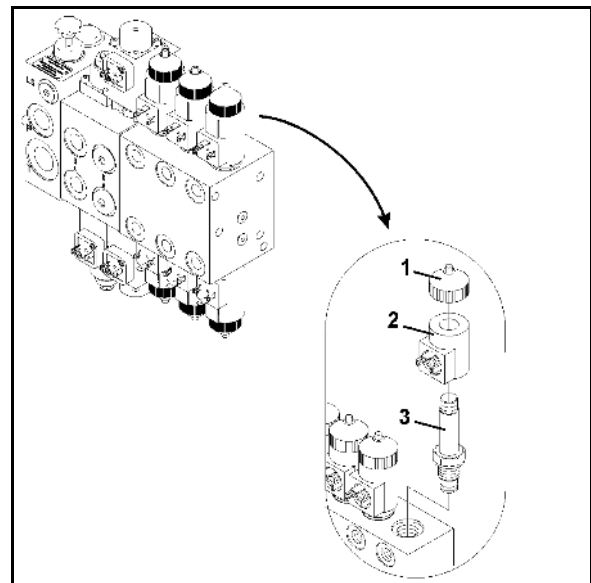

Fig. 126
1. Unscrew the magnetic cap (Fig. 126/1)
2. Remove the solenoid (Fig. 126/2)
3. Unscrew the valve rod (Fig. 126/3) with valve seats and clean with compressed air or hydraulic fluid.